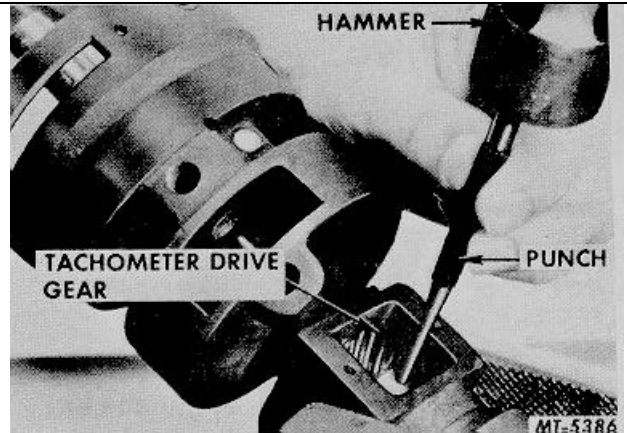

Fig. 35 Removing Tachometer Drive Gear Pin
- e. Using a drift punch and hammer, remove tachometer drive gear pin (Fig. 35).